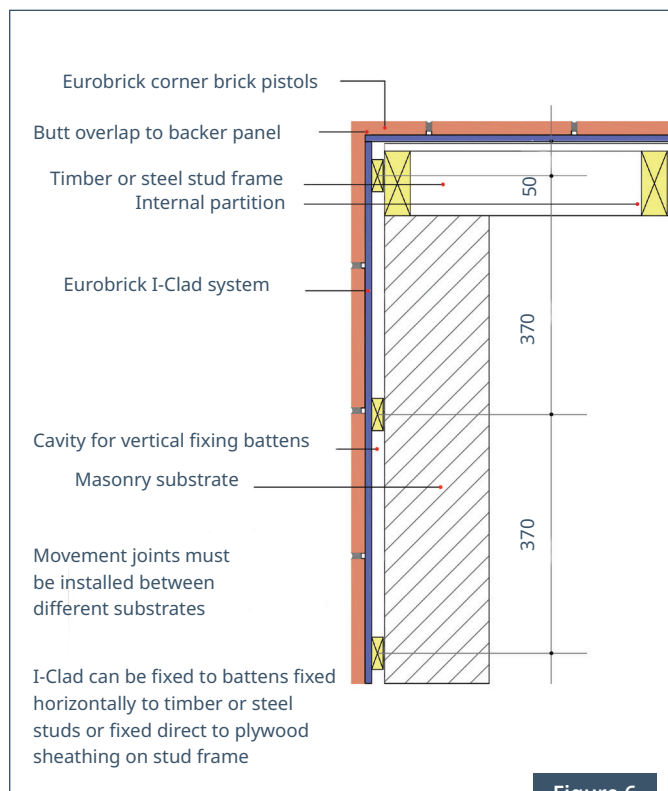

Figure 6
1. Panels must overlap to prevent the creation of a void in the area behind brick. See Figure 6.